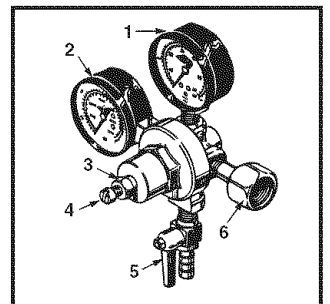

Fig. 11
- Using an adjustable wrench, release the adjustment lock nut # 3. **See Fig. 11**
- Using a flat screwdriver, turn the regulator adjustment screw # 4 **See Fig. 11** Clockwise rotation of the adjustment screw will increase low pressure. Counter clockwise rotation of the adjustment screw will decrease low pressure